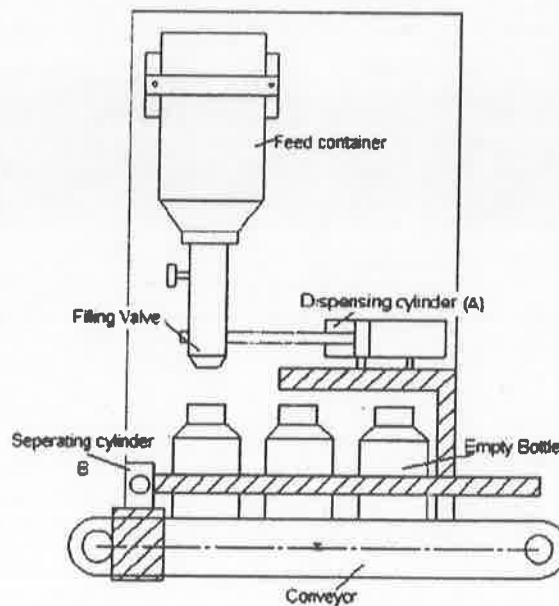

Figure 3
16. (a) An automated medicine filling station is shown in Figure. 3. If a push-button is actuated, the dispensing cylinder-A extends, thereby opening the feed container and the bottle is filled with medicine. Then, it retracts, closing the feed container and the separating cylinder-B retracts and extends again immediately so that a new empty medicine bottle is located under the filling valve. Develop a ladder logic diagram for the above application.